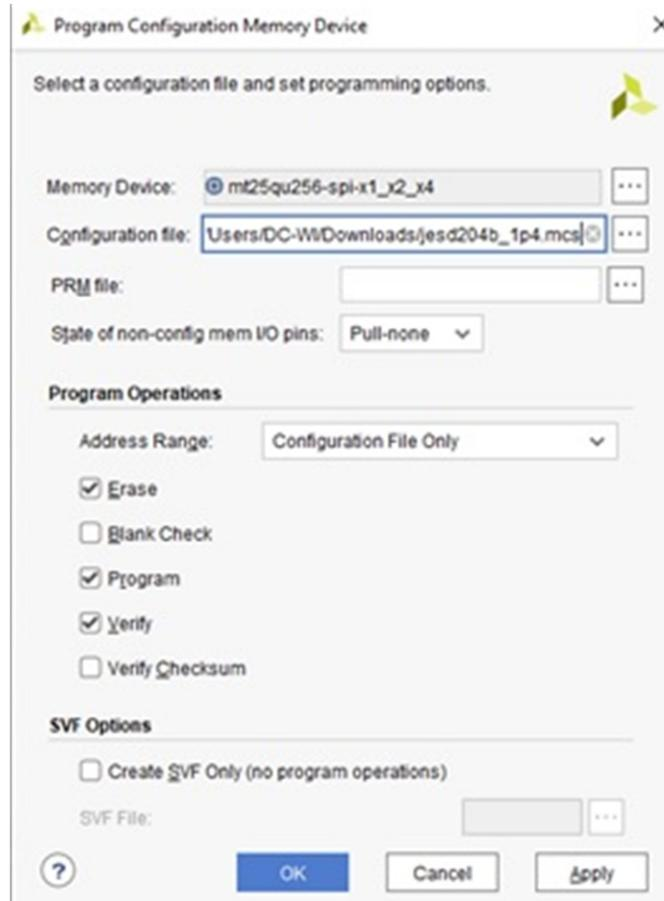

Figure 3-3. Config file
8. With J35 = 1–2, open up the new “xx.mcs” file to be loaded, and check the following setup in the programming. Click the OK button when completed. Figure 3-3 illustrates the configuration file to be loaded.